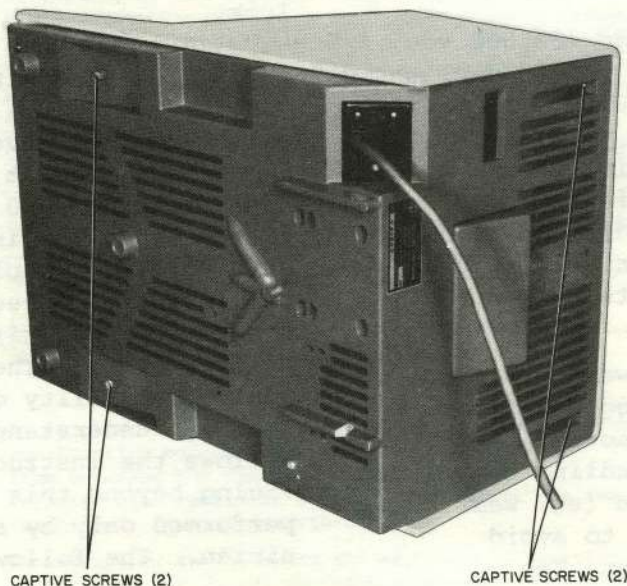

Figure 6-1. Rear and Bottom View of Terminal
b. Lay the terminal on its side and loosen two captive screws in the base (figure 6-1).